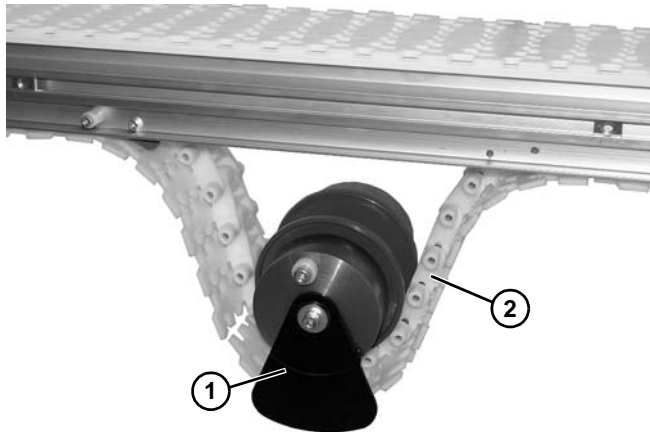

Figure 150
5. Remove idler pulley assembly (Figure 150, item 1) from belt (Figure 150, item 2).